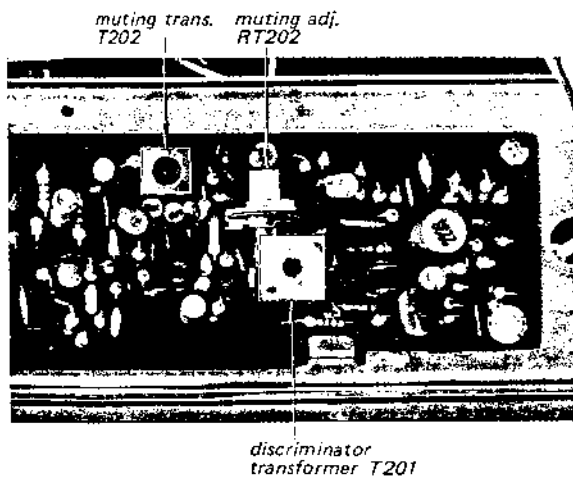

Fig. 3-4. Adjustment parts location
- Turn the top core (secondary side) of discriminator transformer T201 (see Fig. 3-4) with a hex-head alignment tool to obtain a null-point reading on the tuning meter. If the discriminator transformer (T201) is not aligned correctly, some deviation on the tuning meter will be observed.
- Turn the knob of RT202 (see Fig. 3-4) fully clockwise on the fm i-f amplifier board.